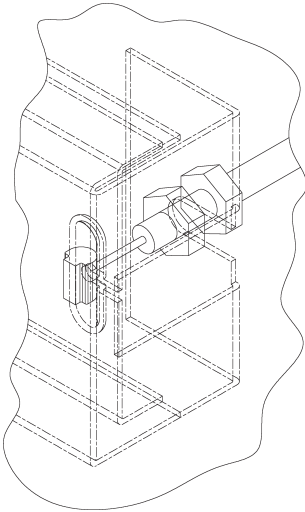

FIG. 3
See Fig. 3
1. Assemble the operating cable to the fountain bracket. (Fountain should be mounted to exterior wall). The adjustment nuts should be in the middle of threaded area on the operating cable. See Figure 3. Create a loop in the cable and thread the free end of the cable through the wall into the freeze resistant box